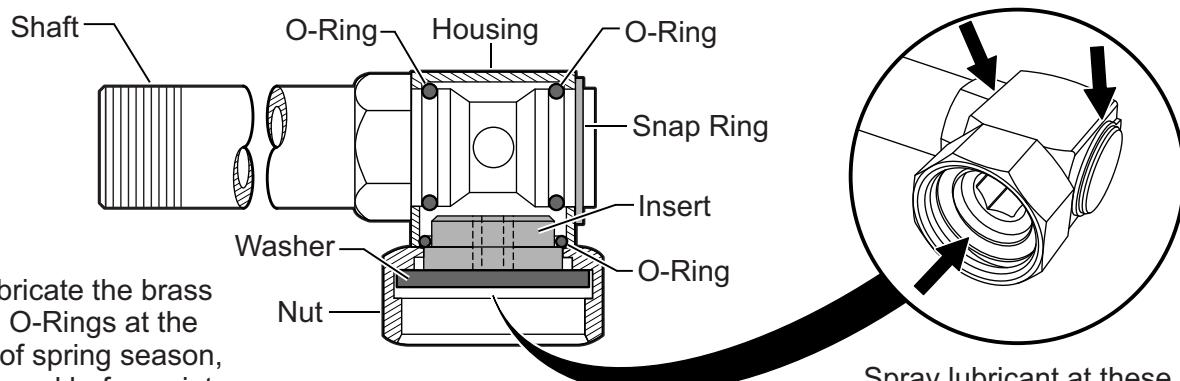

Figure 3
- Lubricate brass swivel O-Rings and washer before winter storage. See Figure 3 below.
Solution: Remove leader hose and turn the square head of the brass swivel several times, and apply silicone lubricant. See Figure 3.